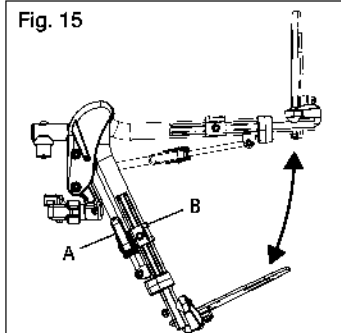

Fig. 15
- a. To raise the Pro ELR, lift the leg rest tube (Fig. 15:A) to desired angle of elevation.
- b. To lower the Pro ELR, press and hold the lever lock (Fig. 15:B) while pushing the leg rest tube (Fig. 15:A) down.